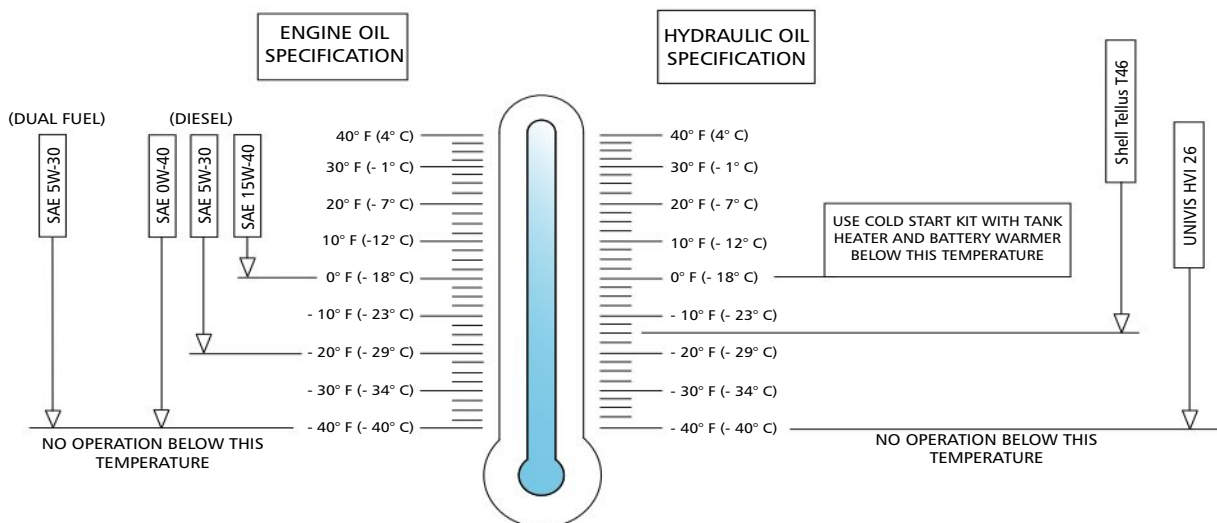

Figure 12 Cold weather operation chart
- Use the correct hydraulic and engine oils (refer to Figure 12).
2. Find the **heater plug** ① in the engine compartment.
Refer to the cold weather operation chart (Figure 12) to help when you operate the MEWP in cold weather conditions.